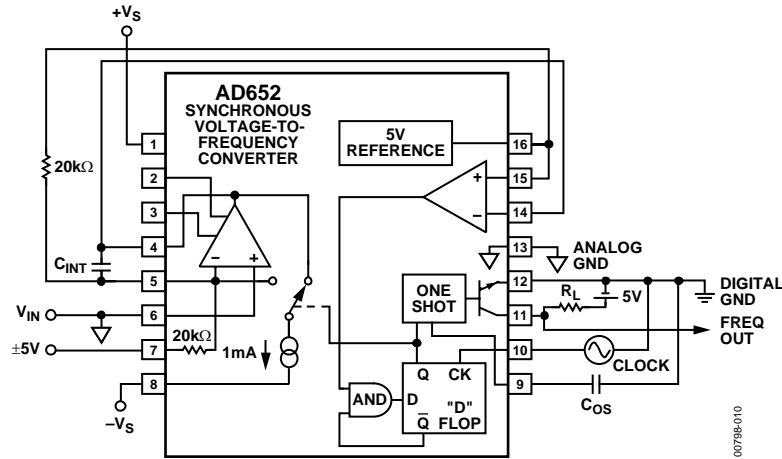

Figure 10. Bipolar Offset
A bipolar input voltage of  $\pm 5$  V can be accommodated by injecting a  $250 \mu\text{A}$  current into Pin 5 (see Figure 10). A  $-5$  V signal provides a zero sum current at the integrator summing junction, which results in a zero-output frequency; a  $+5$  V signal provides a  $0.5$  mA (full-scale) sum current, which results in the full-scale output frequency.
1. Use an external resistor for  $R_{OS}$  and the internal  $20$  k $\Omega$  resistor for  $R_{IN}$  (as shown in Figure 10).